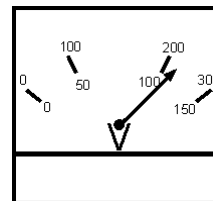

Figure 27. AC Voltmeter with load
14. Check the voltmeter and adjust to proper voltage needed for operation (Figure 27).